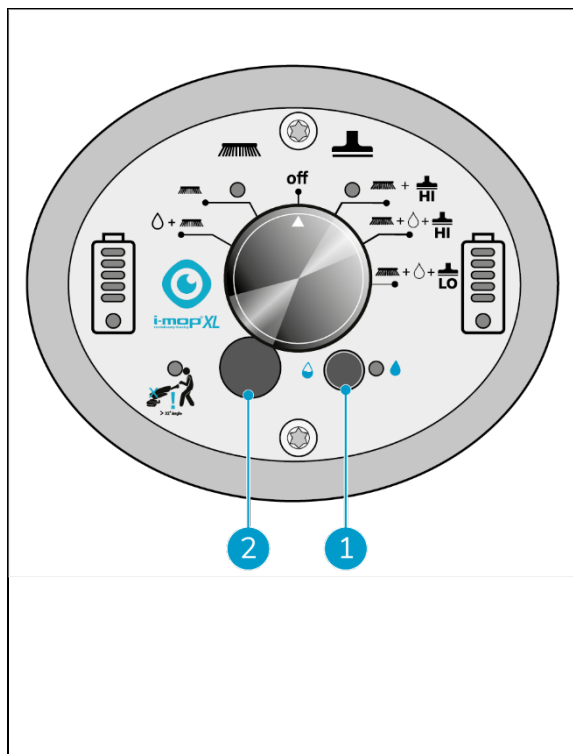

Figure 24
1. Turn on the ECO mode by pushing the ECO button after you have selected your cleaning mode (Figure 24, pos. 1). A Blue Light will burn with the max flow rate water saving. A green light will burn with the standard flow rate water saving.
3. To adjust water flow when ECO mode is activated, you can remove the rubber cap (Figure 24, pos 2) and use a small flathead screwdriver to change the flowrate on the dial below the cap. See flowrate table below.